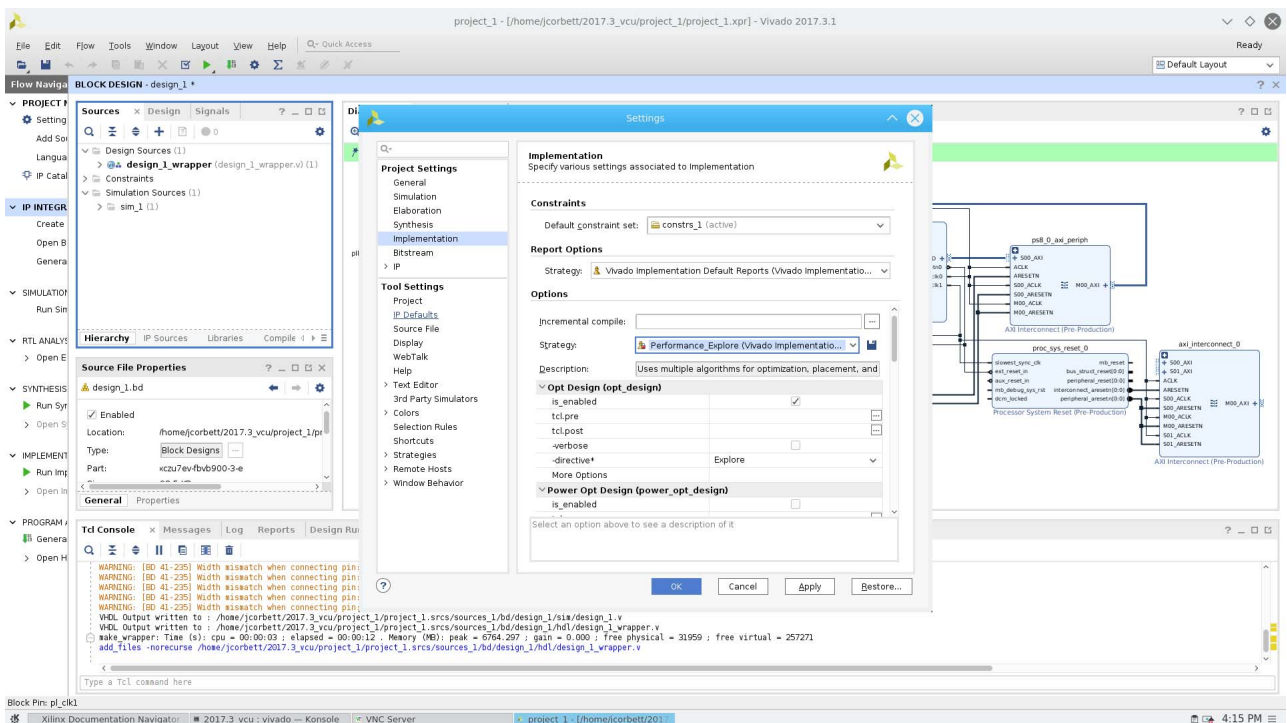

Figure 11-6: Project Settings Tab
- Click on the **Project Settings** window. Click on the Implementation, as shown in Figure 11-6.